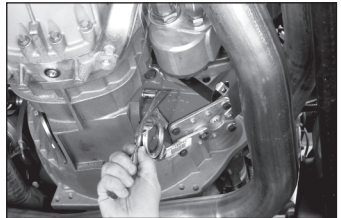

Fig. 17
18. Fasten the P.T.O. to the transmission (Fig. 17).